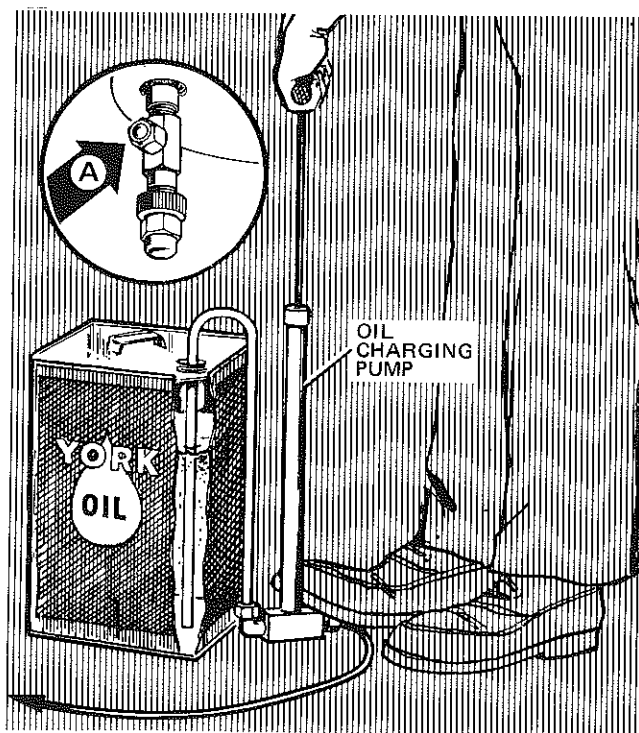

FIG. 15 - CHARGING OIL
The proper amount of oil is approximately 10 gallons for S0, S1, S2, and S3 compressors or 15 gallons for S4 and S5 compressors, depending on the actual compressor/separator combination and the condition of the refrigerant. The actual operating level in the separator should be kept from exceeding the top of the highest sight port shown in Fig. 15.
2. Immerse the suction connection of the oil charging pump in a clean container of new oil and connect the pump discharge connection to the oil charging valve. (See Fig. 15.) Do not tighten the connection at the charging valve until after the air is forced out by pumping a few strokes of the oil pump. This fills the lines with oil and prevents air from being pumped into the system.